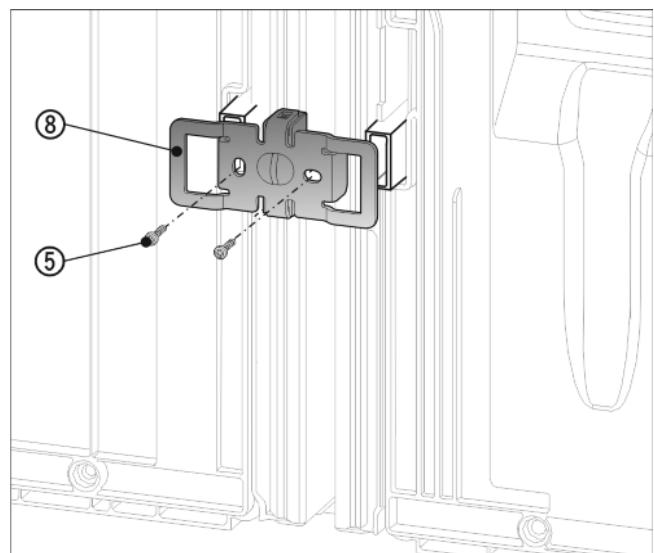

Fig. 12
- ▶ Slide the bracket Fig. 12 (8) on once more with the slots over the retainer for the wall spacers.
- ▶ Screw in tightly with the 2 screws Fig. 12 (5).